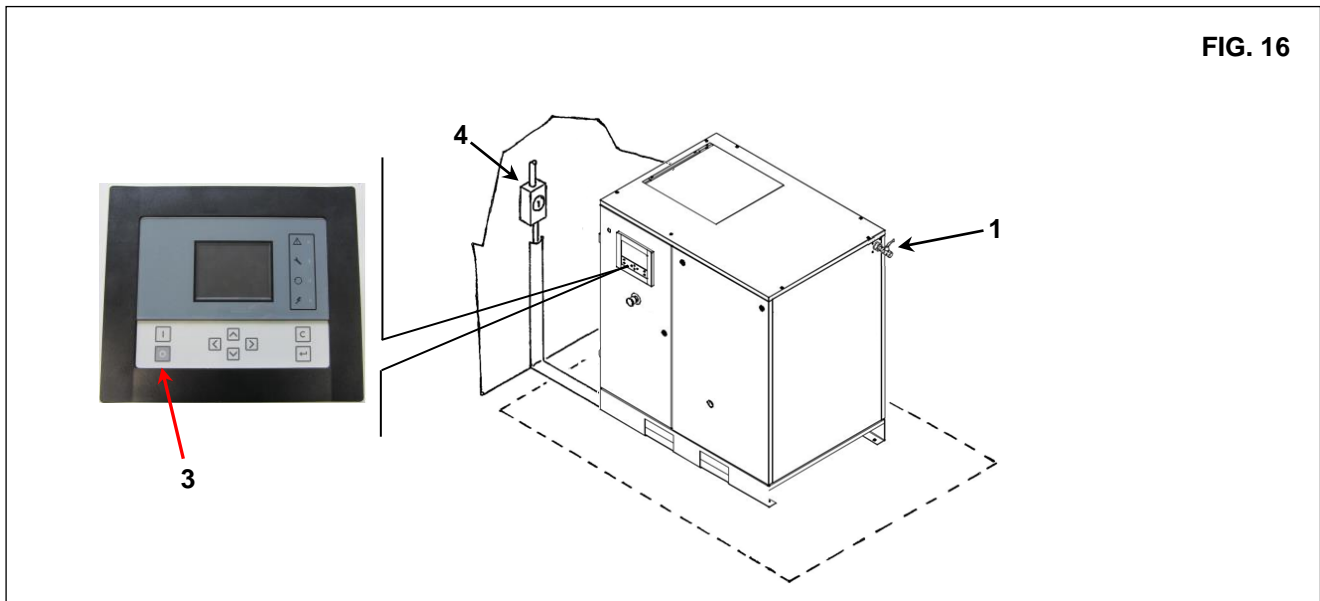

FIG. 16
- Turn off the machine using button Ref. 3 Fig. 16: this way, the machine will stop after the unloading run time.
- Close the tap Ref. 1 Fig. 16 (machine with/without tank).
- Disconnect the power using the disconnect switch Ref. 4 (for screw compressor) Fig. 16.